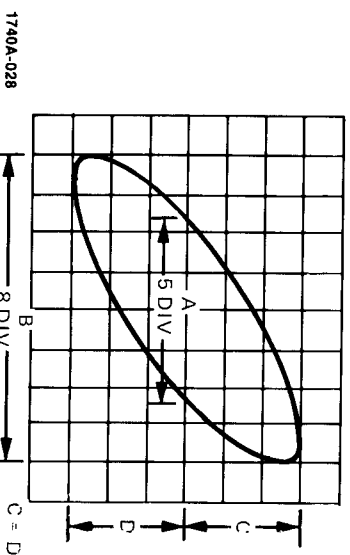

Figure 22a. A VS B Phase Measurement
4. Measure distances A and B as shown in figure 22a. A is the distance intersected by the trace on the
Example: In figure 22a, A equals five divisions and B equals eight divisions. Distance C is equal to distance D. The sine of the phase difference (θ) is A/B, which is 0.625.